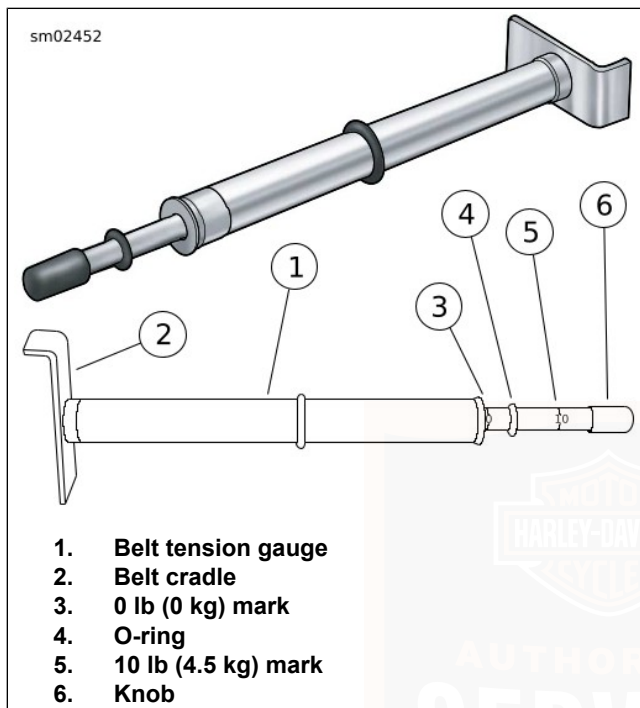

Figure 68. Belt Tension Gauge
3. See Figure 68. Measure belt deflection using: